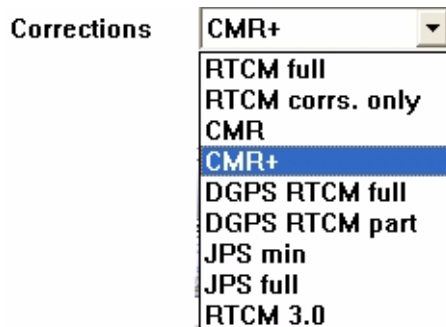

Figure 8-7. Corrections drop-down list box
- Select the format of the corrections received from the Base Station from the *Corrections* drop-down list box (Figure 8-7).